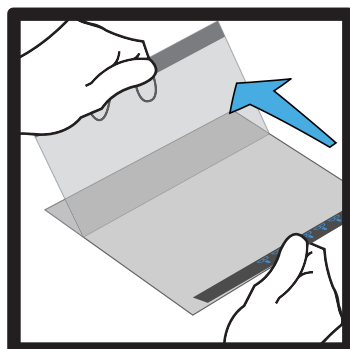
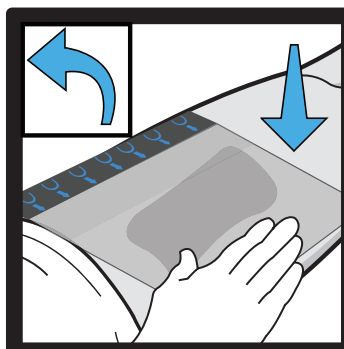
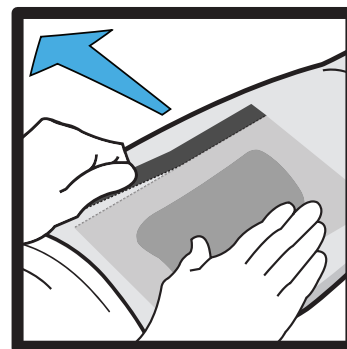

Figure 5
Figure 6
Figure 9
10. Remove the drape's release liner starting with tab A (**Figure 5**). Invert and place over the foam and peri-wound (**Figure 6**) and continue removing the contact layer with tabs B and C (**Figures 7-8**). Remove the remaining perforated tab (**Figure 9**). Gently press drape material down around the wound site and over the foam to ensure dressing is properly sealed.